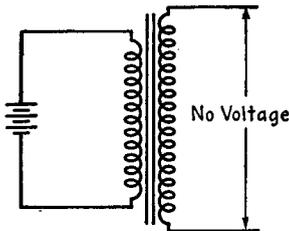

FIG. 21-4. Transformer fed with direct current.
**How the vibrator works.** To understand vibrator operation consider first the circuit of Fig. 21-4. The battery sets up a steady magnetic field in the core of the transformer. A steady magnetic field does not induce voltage in the secondary. If the battery terminals are reversed, the magnetic field goes through a reversal, which is a change that induces voltage in the secondary winding.